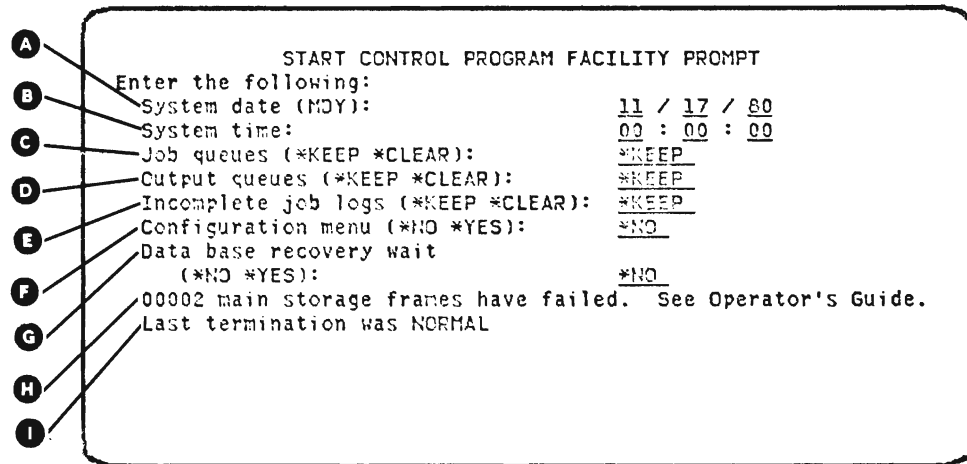

Figure 8-4. Start CPF Prompt
When you have signed on and completed the programming changes display, if any, the system responds with the start Control Program Facility (start CPF) prompt (Figure 8-4). As with all prompts, the default values shown on the display are used by the system unless you change them.
**A** **System date:** The date shown is the system estimate of the current date. If the date is wrong, you can correct it by keying in new numbers on top of those shown. Because it is possible to display the date different ways, the format in which the date is displayed is also indicated. In the example shown here (Figure 8-4), the format is month-day-year (MDY). The format is controlled by the system value QDATFMT.
When you enter \*YES on the *Configuration menu* line of the start CPF prompt (Figure 8-4), you receive a configuration menu (Figure 8-5) that allows you to select commands for displaying, creating, or changing various elements of the system configuration.